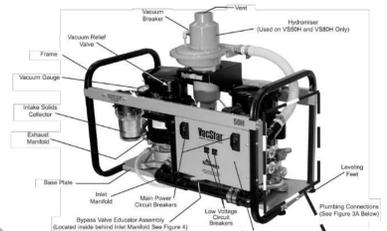

Figure 2. VACSTAR 50, 50H, 80 and 80H Parts Location
- For VacStar twin pump units, suction hose is connected at suction intake, found on intake solids collector assembly. See Fig. 2.